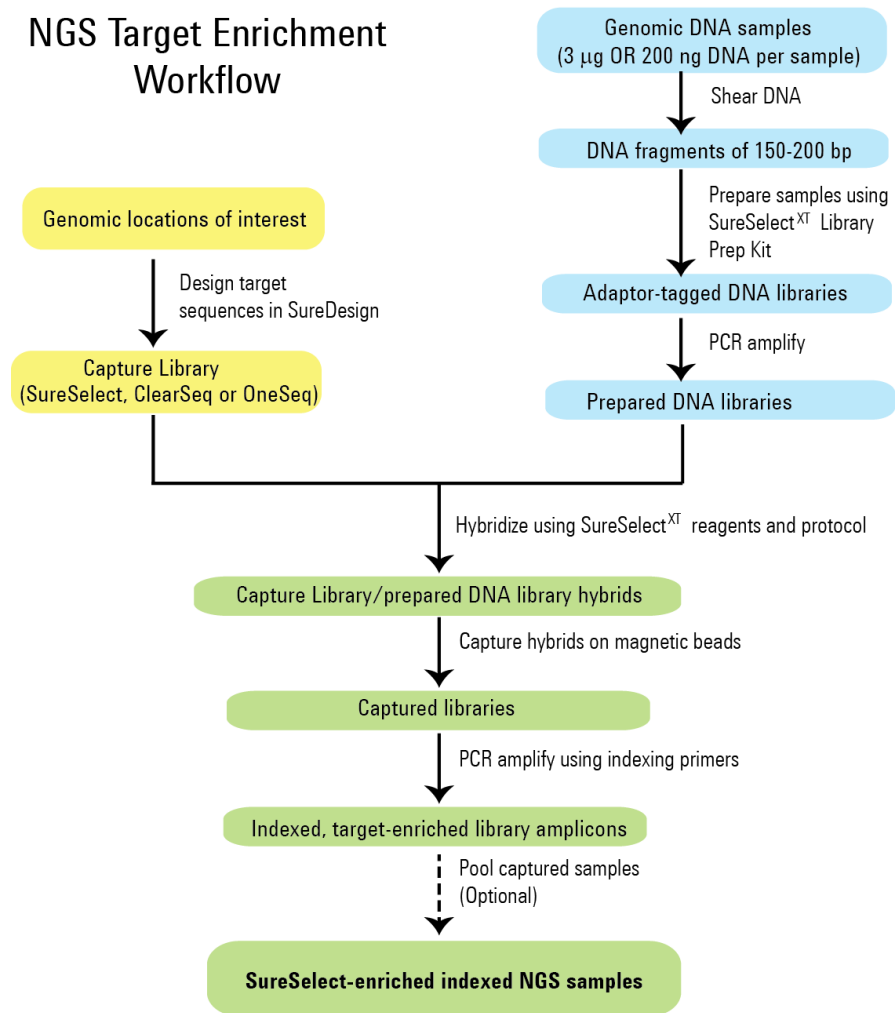

Figure 2 Overall sequencing sample preparation workflow.
Figure 2 summarizes the SureSelect target enrichment workflow for samples to be sequenced using the Illumina paired-read sequencing platform. For each sample to be sequenced, individual library preparations, hybridizations, and captures are performed. The samples are then tagged by PCR with an index sequence. Depending on the target size of the SureSelect capture, multiple samples can be pooled and sequenced in a single lane using the Illumina-specified multiplex index tags that are provided with SureSelect Library Prep kits.
- At the hybridization step (see Figure 2), you can add a different Probe Capture Library to each row of the plate. Plan your experiment such that each prepared DNA library corresponds to the appropriate probe row in the sample plate.
- For sample indexing after hybridization to the SureSelect library (see Figure 2), you will need to prepare a separate plate containing the indexing primers. Assign the wells to be indexed with their respective indexing primers during experimental design.
- For post-capture amplification (see Figure 2), different probes can require different amplification cycle numbers, based on the probe design sizes. It is most efficient to process similar-sized probes on the same plate. See Table 74 on page 100 to determine which probes may be amplified on the same plate.